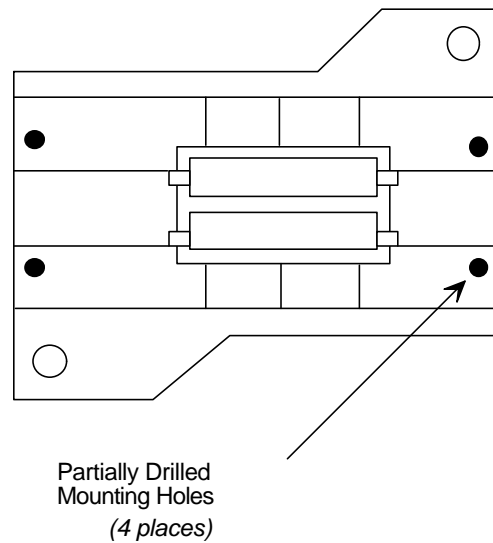

Figure 2-3. View of the Display Base
6. Looking at the inside of the base, notice that the four mounting holes near the corners have been drilled, but not completely through. See Figure 2-3. Using an awl or similar tool, punch out only the holes you need. This feature ensures that your unit will remain sealed from contaminants if you decide to mount it with fewer than four fasteners.
4. Looking at the inside of the base, notice that the four mounting holes near the corners have been drilled, but not completely through. See Figure 2-3. Using an awl or similar tool, punch out only the holes you need. This feature ensures that your unit will remain sealed from contaminants if you decide to mount it with fewer than four fasteners.